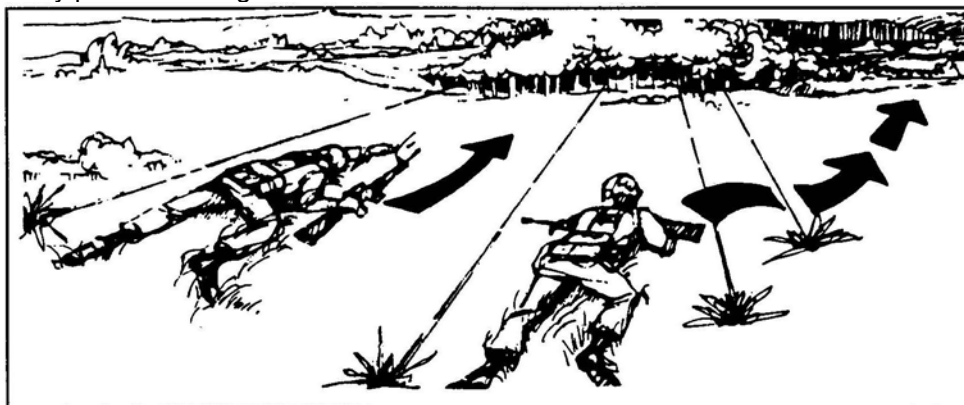

Figure 4. Crawling.
- (1) An assault element, to close with and destroy the enemy.
- (2) A support element, to suppress and fix the enemy by fire.
- (3) A breach element, to clear or mark a path through enemy obstacles or to blow holes in walls for the assault element.
- a. Crawling (Figure 4) may be required when the fire team faces intense enemy fire and has little cover. Individuals use either the low or high crawl, depending upon their particular situation and the requirement for speed. This method is slow, but reduces exposure to enemy observation and fire. Individuals must place fire on the enemy to suppress him when they are not moving forward. If necessary, the members of the squad may advance all the way into and through enemy positions using the crawl method.